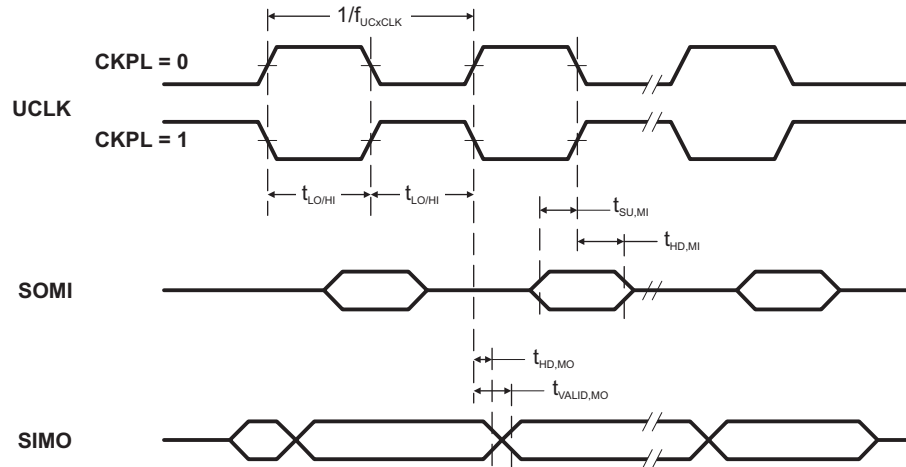
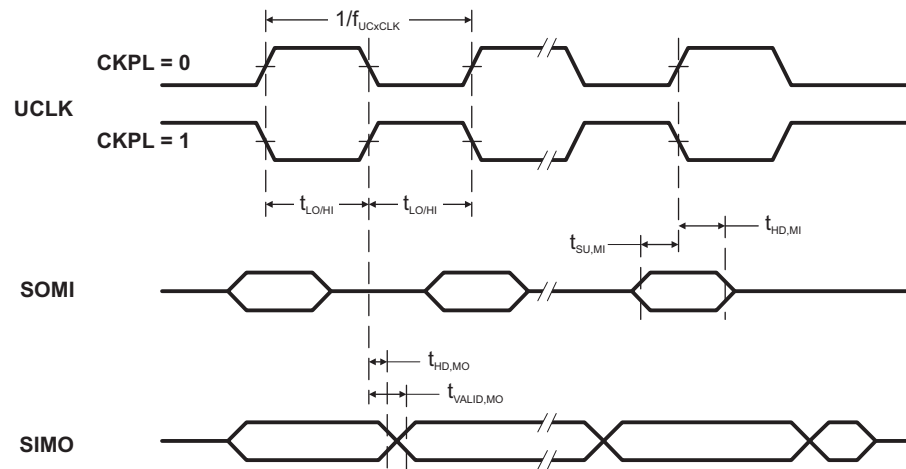

Figure 12. SPI Master Mode, CKPH = 0
Figure 13. SPI Master Mode, CKPH = 1
(see Note ⁽¹⁾, Figure 12 and Figure 13)
- (2) Specifies the time to drive the next valid data to the SIMO output after the output changing UCLK clock edge. Refer to the timing diagrams in Figure 12 and Figure 13.
- (3) Specifies how long data on the SIMO output is valid after the output changing UCLK clock edge. Negative values indicate that the data on the SIMO output can become invalid before the output changing clock edge observed on UCLK. Refer to the timing diagrams in Figure 12 and Figure 13.
- (2) Specifies the time to drive the next valid data to the SOMI output after the output changing UCLK clock edge. Refer to the timing diagrams in Figure 12 and Figure 13.
- (3) Specifies how long data on the SOMI output is valid after the output changing UCLK clock edge. Refer to the timing diagrams in Figure 12 and Figure 13.